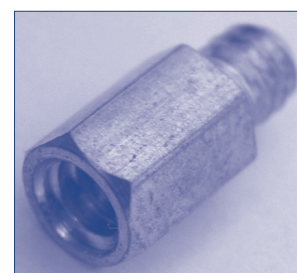
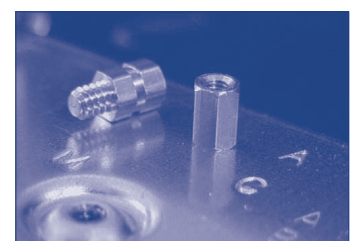

Figure 1
Figure 2
- (7) Next you must fit the metal standoffs that will space the back of the motherboard away from the back of your case.
- (8) There are many different types of standoffs but the most common is shown below. You may need to consult your case information if you are unsure.
- (9) Figure 1 shows the most common standoff. These must be positioned in the case by screwing them in to the preset holes drilled in to the back of your case as shown in Figure 2.